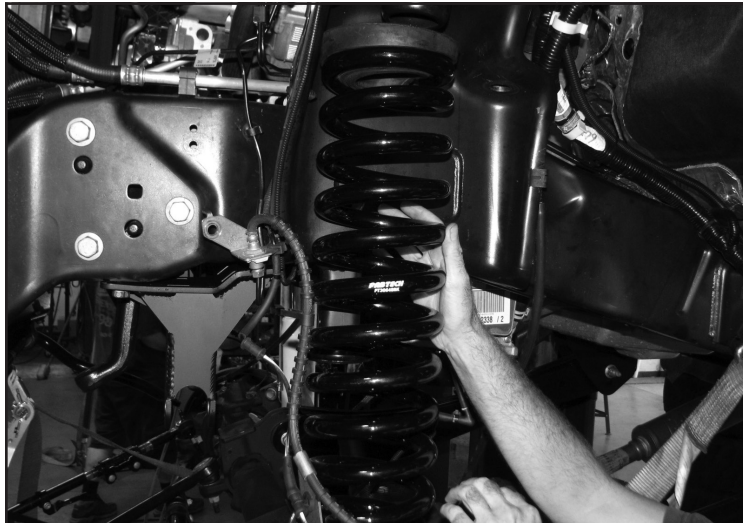

FIGURE 24 - STEP 23
23. Install FT30648 (Coil Spring) using the factory upper isolator. **SEE FIGURE 24**